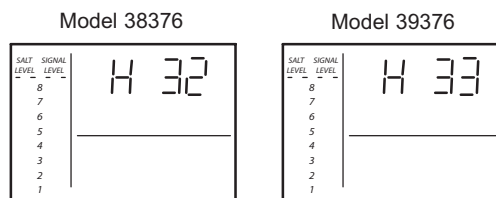

FIG. 64
- Press and hold the SELECT1 button for 3 seconds until either H 32 or H 33 shows in the display, see Fig. 64.